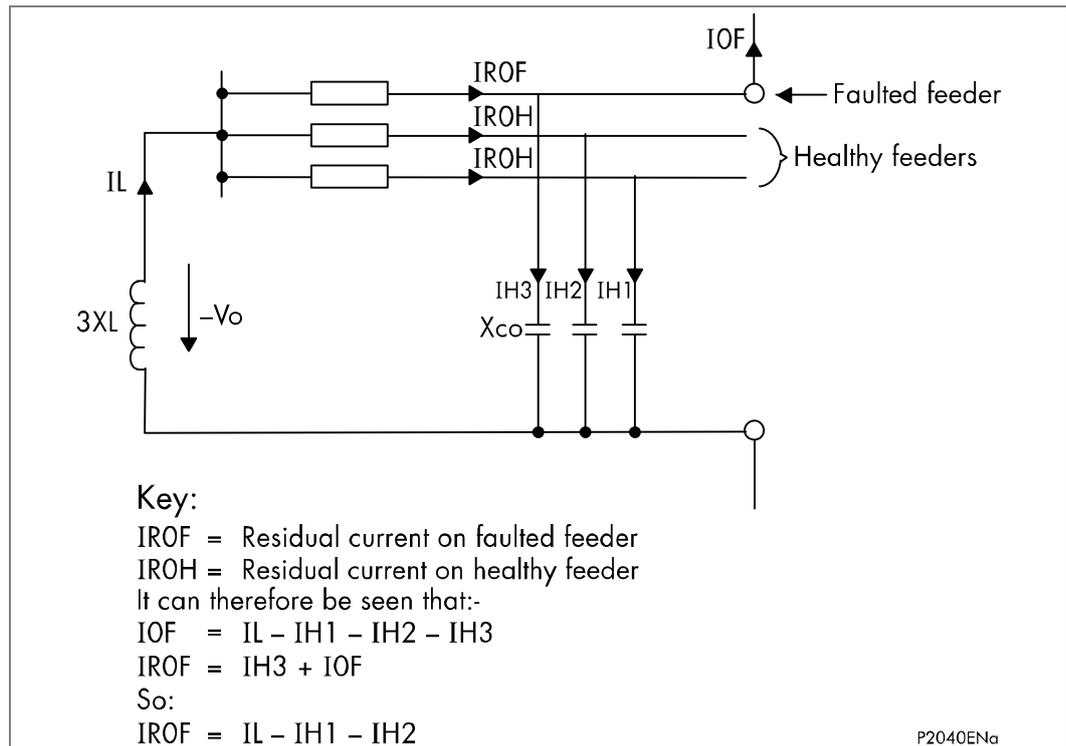

Figure 17 - Zero sequence network showing residual currents
Note The actual residual voltage used as a reference signal for directional earth fault relays is phase shifted by 180° and is therefore shown as -3Vo in the vector diagrams. This phase shift is automatically introduced in the relay. On the faulted feeder, the residual current is the addition of the charging current on the healthy phases (IH3) plus the fault current (IF). The net unbalance is therefore equal to IL-IH1-IH2, as shown in Figure 16c. This situation may be more readily observed by considering the zero sequence network for this fault condition. This is depicted in Figure 17.